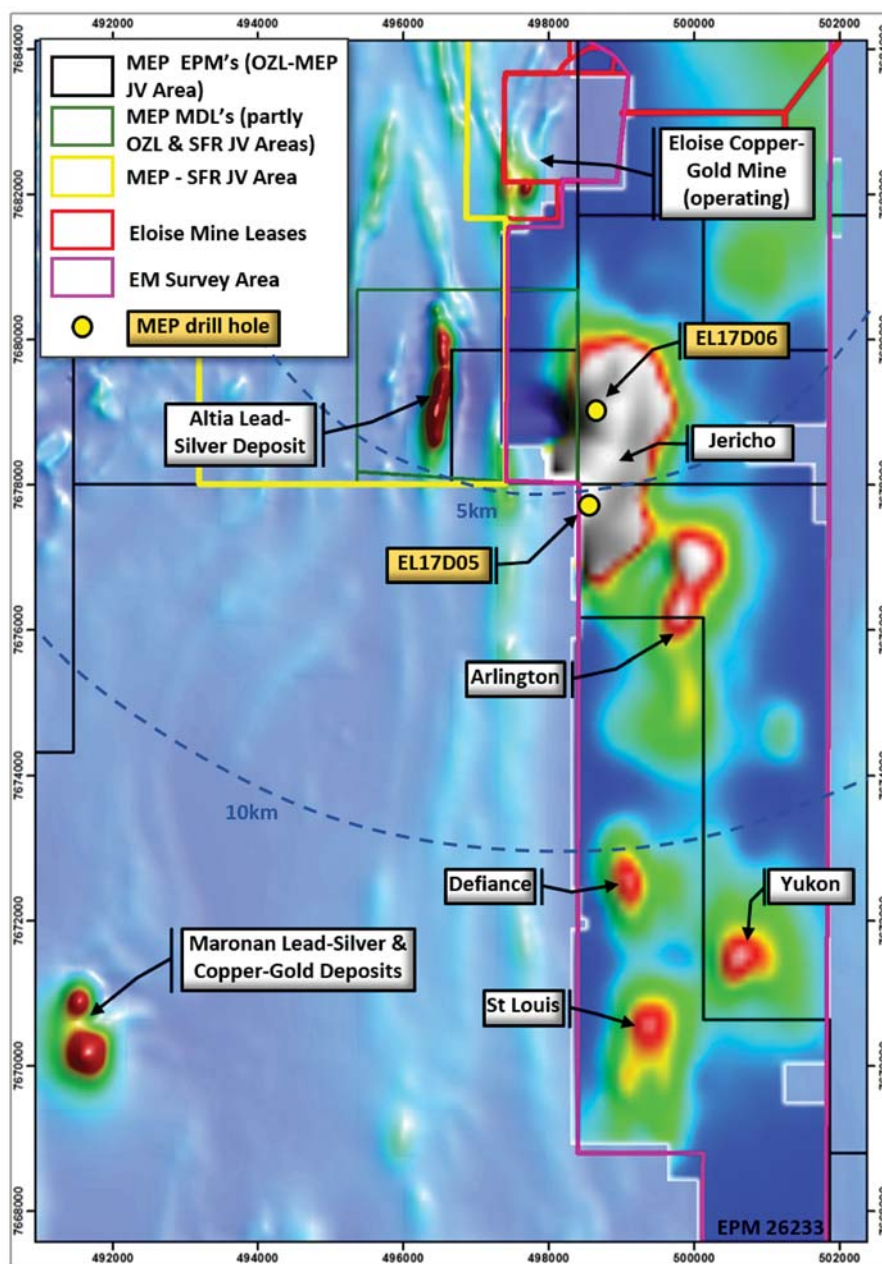

Figure 1: Priority drill targets south of Eloise mine; EM image is Z component, channel 30 over magnetics.
Minotaur Exploration Ltd (ASX: MEP, 'Minotaur') is pleased to provide a drilling update for the Eloise JV, northwest Queensland. Four holes are testing 3 electromagnetic (EM) anomalies located 5-13km south of the Eloise copper-gold mine (*Figure 1*). First-pass holes at the Jericho target intersected massive to semi-massive copper sulphides in several horizons.
Intersections of visible copper mineralisation over multiple, wide horizons at Jericho marks a significant development in Minotaur's targeting of copper prospects in the Eloise area. Jericho's multiple conductors show strike extent of up to 4km and depth potential (based on current EM data) ranging up to 700m, and from just 100m below surface. Assay results, when received in the next 2-3 weeks, will clarify the quality of the intersections reported here. Meanwhile, the Eloise JV is acting on these highly encouraging results. New DHEM data will inform the placement of additional holes to probe Jericho's continuity. A second drill rig has been mobilised to test Arlington and St Louis while drilling continues at Jericho where 3-4 extra holes have been endorsed (*Figure 1*).
The Eloise JV is seeking Eloise-style copper-gold and Cannington-style silver-lead-zinc mineralisation, with both styles evident in the well endowed mineral camp around the Eloise, Altia and Maronan deposits (refer to *Figure 1*).